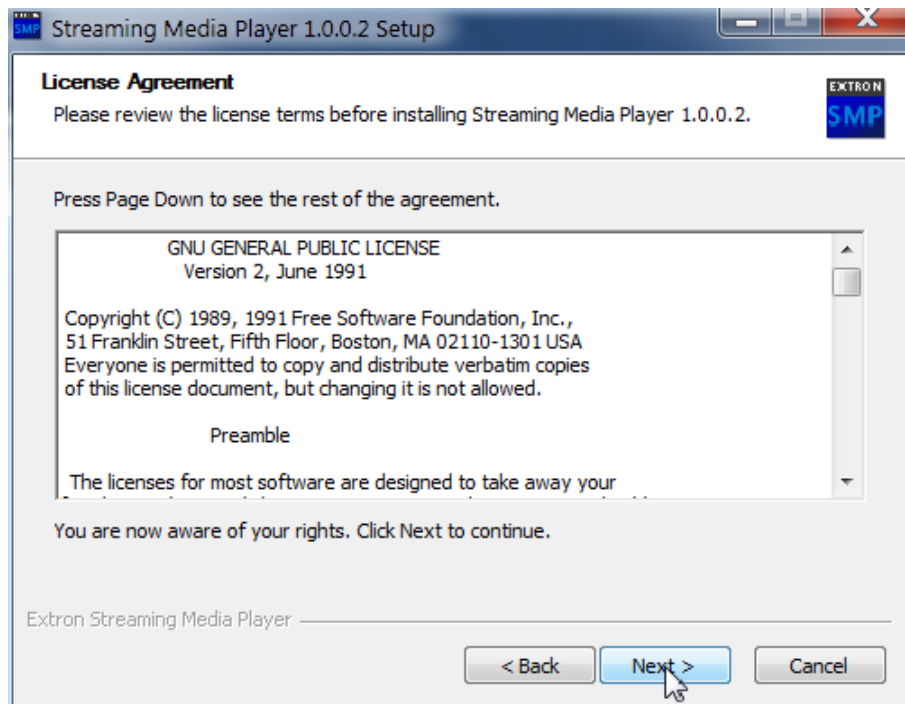

Figure 37. License Agreement
8. A License Agreement dialog box appears next. Read the agreement, then click **Next** to continue the installation (see figure 37) .